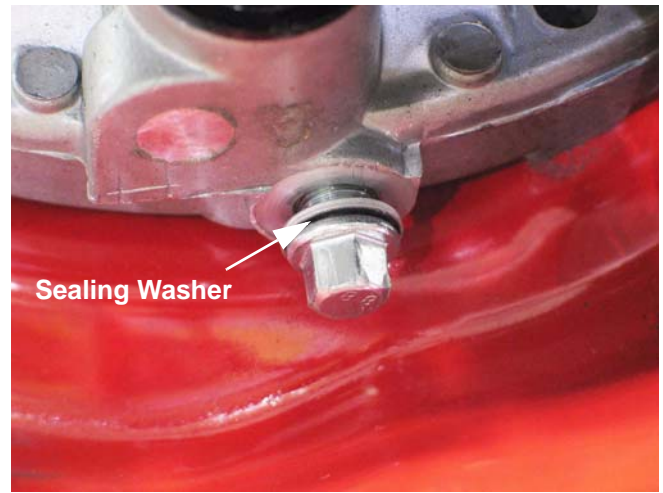

Figure 2.5
1. Oil can be drained by removing the drain plug located at the base of the filler tube / dipstick tube, using a 10mm wrench. See Figure 2.5.